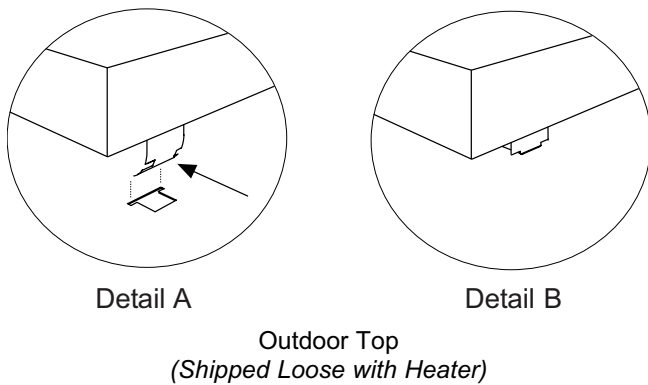

Figure 5. Outdoor Top Installation for Models 0181-0401 and 0182-0400
4. Insert tabs of outdoor top into keyholes located on jacket top panel (4 places). See **Figure 5**, Detail A.
5. Snap tabs on outdoor top into the locked position of the keyhole so the top will not pull out. See **Figure 5**, Detail B.